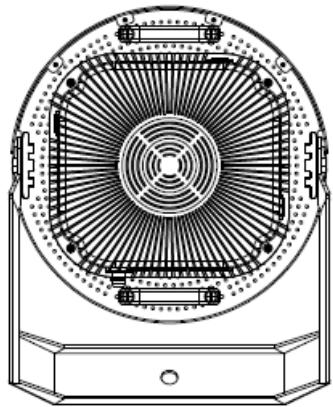
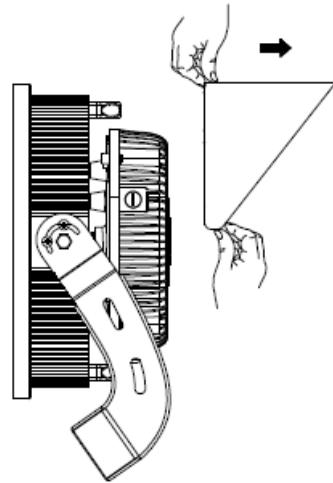

FIG.3
FIG.5
- 1) Dismount 6 pcs screws which are used to fix shroud onto the fixture (anticlockwise direction), take the shroud down. (See FIG.3 to FIG.5)